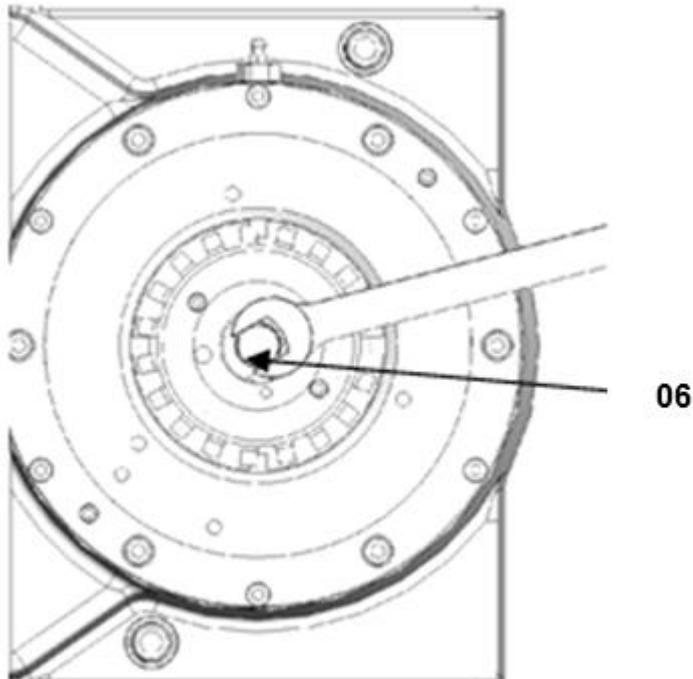

Fig. 5.5
- Screw or unscrew using a flat spanner Fig.5.5 or a socket, the adjuster screw **06** until the gap between the pad and the disc reaches the required value "PG" Pad Gap see type plate. The Pad Gap is to check on both side and if the version R-V is used additional readjust with the adjustment screw between casing and groundplate.
3. Remove the locking washer **15** to free the wear take up screw **06** Fig. 5.5 see chapter 5.3.
4. Screw or unscrew using AF spanner or socket the wear take up screw **06** until the gap between the pad and the disc enables to put the new pad in position Fig.5.5 see chapter 5.3.